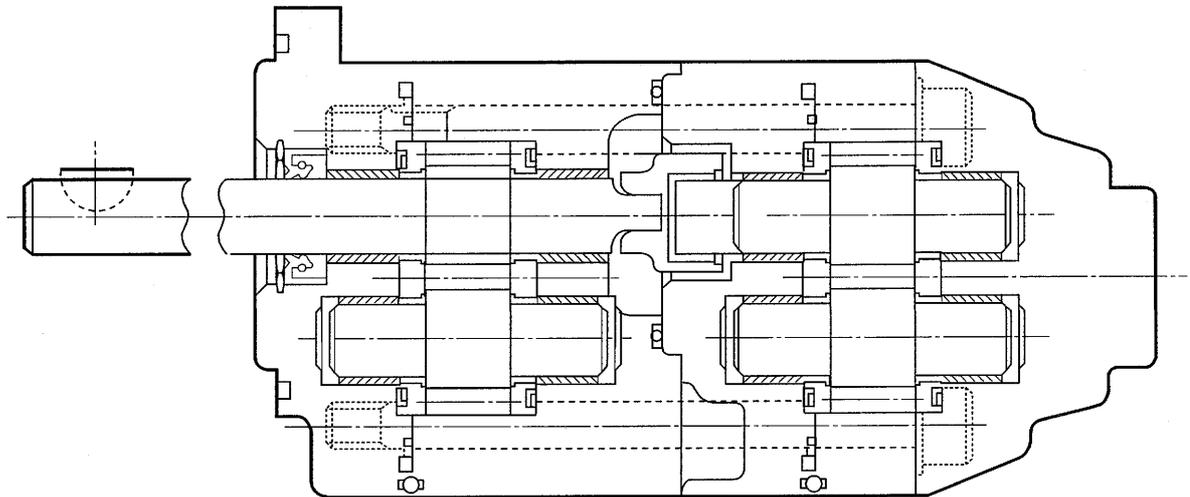
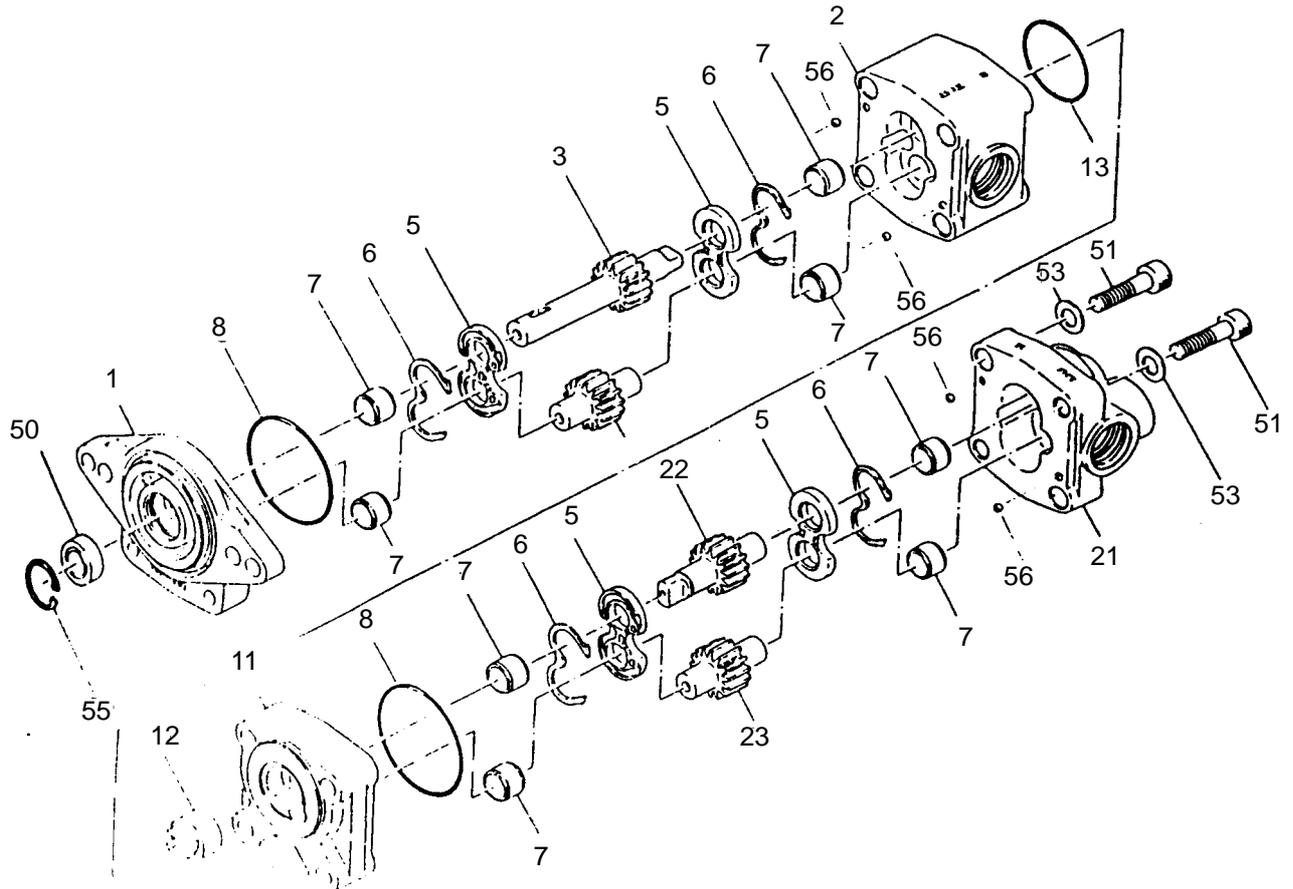

Figure 4-1
Figure 4-2
**NOTE :** A cross section view is shown in Figure 4-1, and an exploded view is shown in Figure 4-2